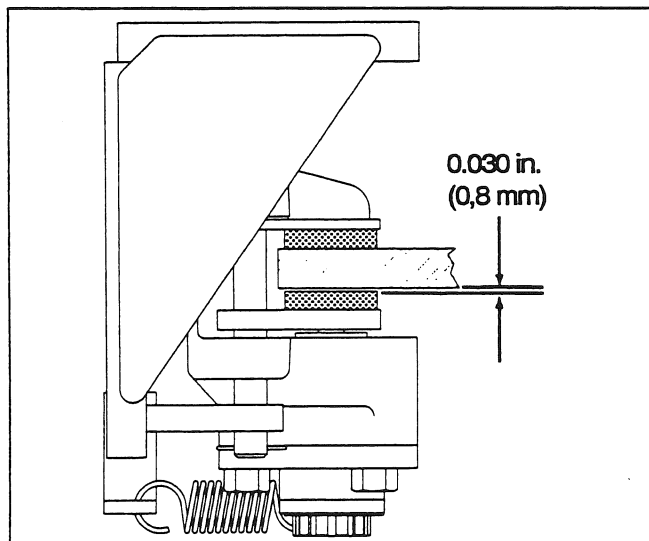

Fig. 45
13. Insert a 1/4 in. Allen wrench into the shaft and turn counter-clockwise until there is a 0.030 in. (0,8 mm) gap between the applying pad and disc (see Fig. 45). Install the plastic plug (23).
5. If the friction pads are dragging, check the gap between the pads and disc. To adjust the gap, remove the plastic plug. Insert a 1/4 in. Allen wrench into the end of the shaft and turn counter-clockwise until there is a 0.030 in. (0,8 mm) gap between the applying brake pad and disc (see Fig. 45). Install the plastic plug.